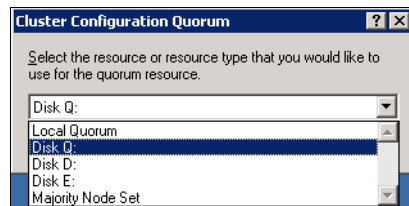

Figure 25-34 Cluster Configuration Quorum
**Note:** Click **Quorum** (Figure 25-34) to see which disk has been selected for the quorum disk. It must point to the previously generated Quorum disk on your DS3000 storage. A local quorum and a Majority Node Set are not suitable for a fibre cluster.